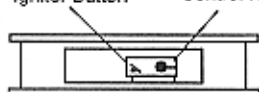

Figure 18-Control Knob and Ignitor Button Location
- Wait five (5) minutes to clear out any gas. Then smell for gas, including near the floor. If you smell gas, STOP! Follow "B" in the safety information. If you don't smell gas, go to the next step.
- Turn control knob counterclockwise to the PILOT position. Press in control knob for five (5) seconds (see Figure 18).